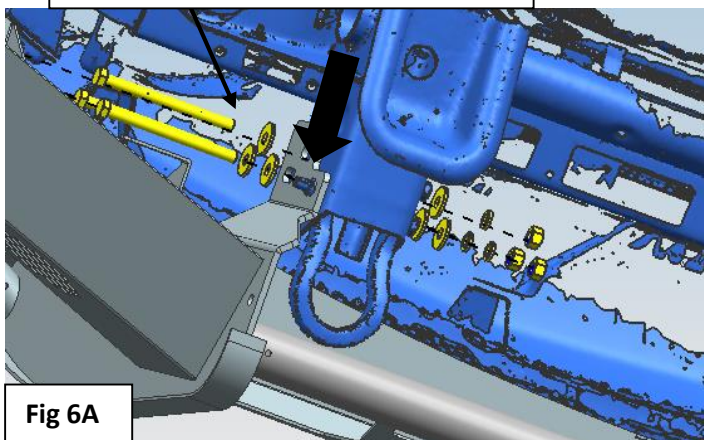

Fig 6A
3. Fasten the Replacement Front Bumper to the frame, install the OEM to hooks with the hardware (Fig 6A & 6B).